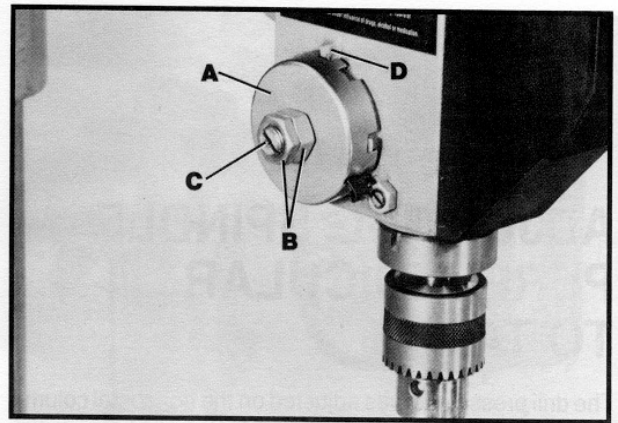

Fig. 22
For the purpose of automatically returning the spindle upward after a hole has been drilled, a spindle return spring is provided in the spring housing (A) Fig. 22. This spring has been properly adjusted at the factory and should not be disturbed unless absolutely necessary. To adjust the return spring, proceed as follows:
2. Loosen the two nuts (B) Fig. 22, approximately 1/4". Do not remove nuts (B) from shaft (C).
3. While firmly holding spring housing (A) Fig. 22, pull out housing and rotate it until the boss (D) in head casting is engaged with the next notch on the housing. Turn the housing counter-clockwise to increase and clockwise to decrease spring tension. Then tighten the two nuts (B) to hold the housing in place. **IMPORTANT:** Nuts (B) should not contact spring housing (A) when tight.